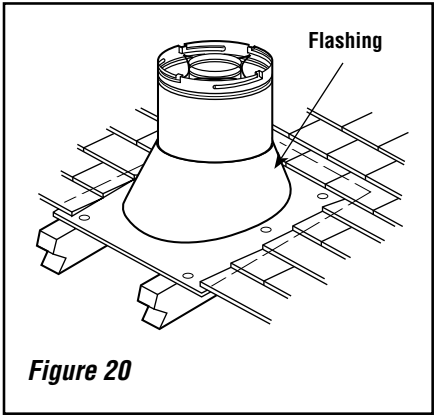

Figure 20
I. Install the roof flashing - Extend the vent sections through the roof structure. Install the roof flashing over the vent section and position such that the vent column rises vertically (use carpenters level) (**Figure 20**). Nail along perimeter to secure flashing or adjust roofing to overlap the flashing edges at top and sides only and trim where necessary. Seal the top and both sides of the flashing with waterproof caulking.